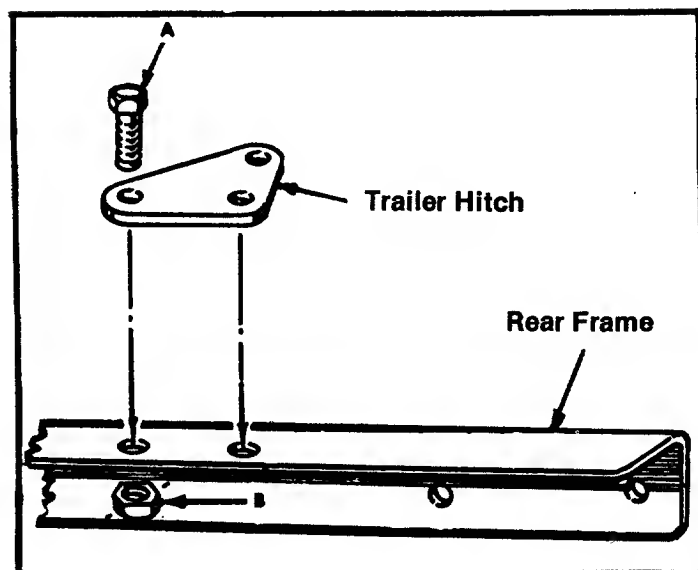

FIGURE 10. TRAILER HITCH
7. Position the trailer hitch on the center of the rear frame section and fasten with bolts A and nuts B. See figure 10.